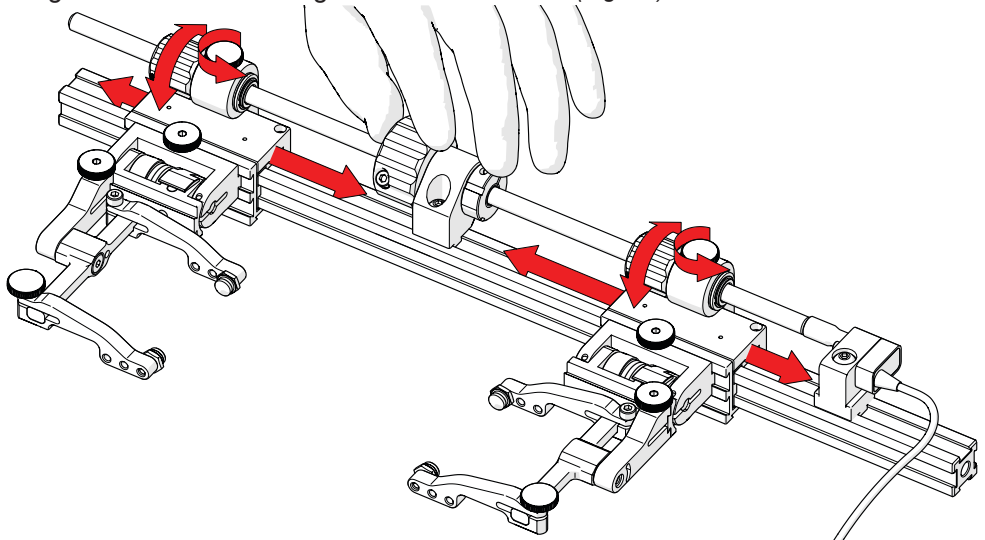

Fig. 31 - Individual slider positioning
2. Loosen the knob at the top of the slider. Rotate the small knobs allowing individual placement of the sliders (*Fig. 31*). The main knob must be held firm when rotating the small knobs for the correct movement to take place.